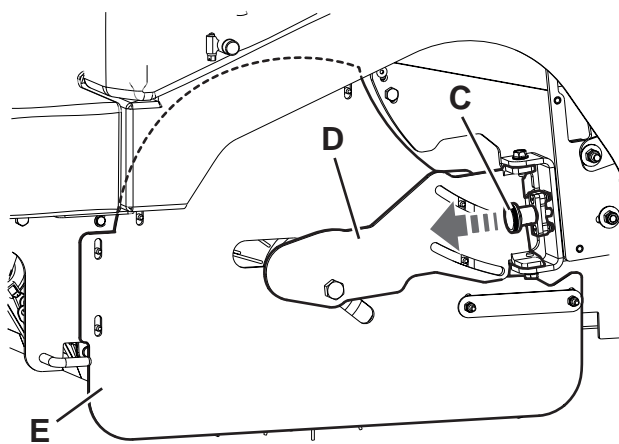
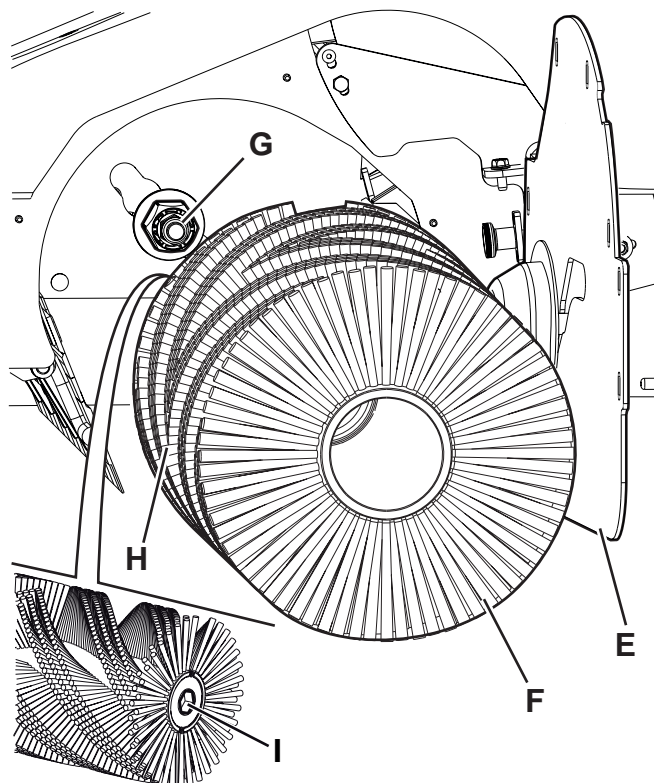

Figure 11
Figure 12
5. Pull the knob (C, Fig. 11) as indicated by the arrow to disengage the closing support (D).
6. Turn and open the closing support (D) together with the left side skirt (E).
7. Remove the main broom (F, Fig. 12).
8. Check that the drive hub (G) is free from dirt or foreign materials (pebbles, rags, etc.) accidentally rolled up.
9. The new main broom must be installed with the bristles rows bent as shown in the figure (H).
10. Install the new main broom and ensure that the hexagonal mesh (I) fits into the relevant drive hub (G).
11. Turn and close the closing support (D, Fig. 11); when closing, slightly pull the knob (C) until it clicks.